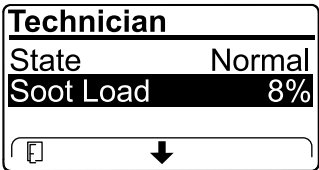

Figure 45
- View the soot load which is measured as the percentage of soot in the DPF(Figure 45); refer to the soot-load table.